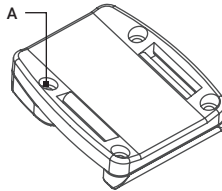

FIGURE 3-1. WIRELESS REMOTE CONTROL BATTERY INSTALLATION
1. Using a screwdriver, unscrew the four screws (A, Figure 3-1) that secure the cover to the bottom of the unit. Remove the cover.